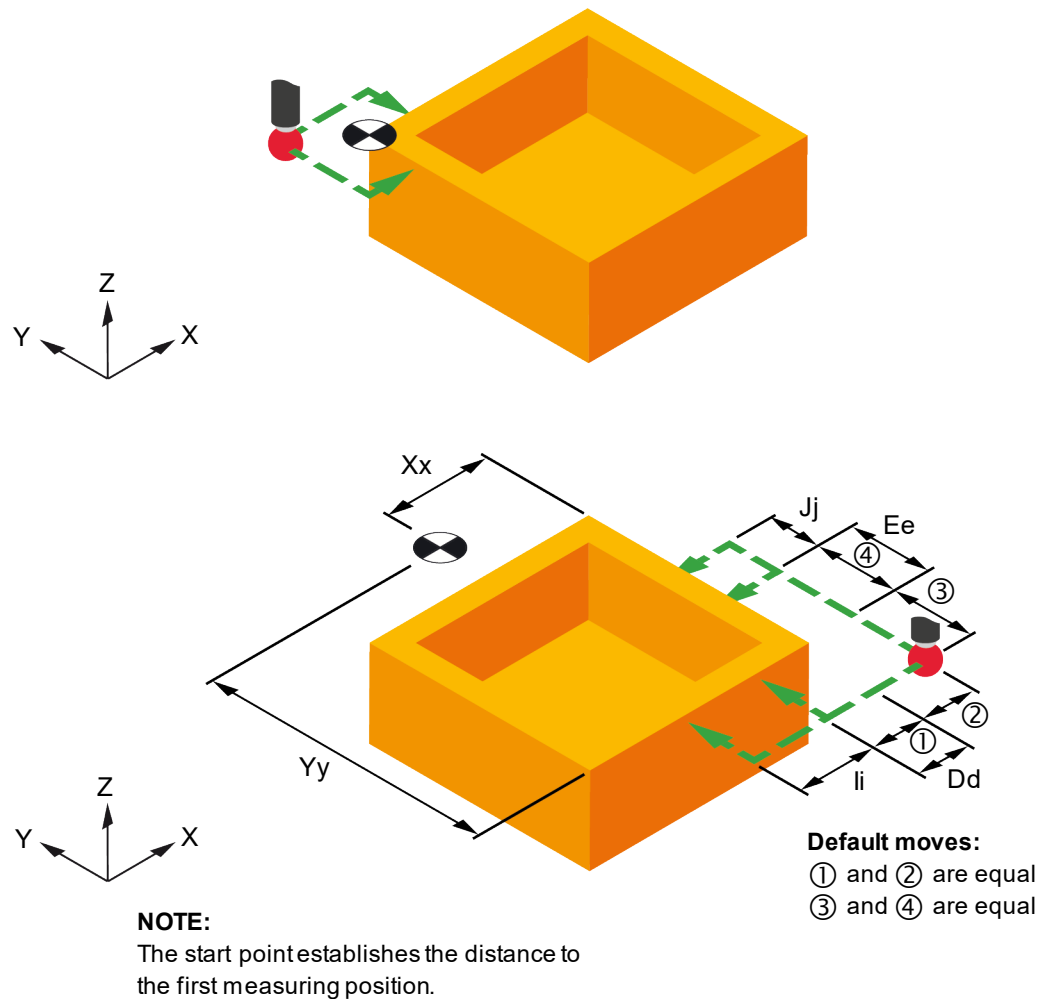

Figure 6.5 Finding an external corner
Default value: Uses the start point and distance (① + ② method) to establish the X distance (see Figure 6.5).
Default value: Uses the start point and distance (③ + ④ method) to establish the Y distance (see Figure 6.5).